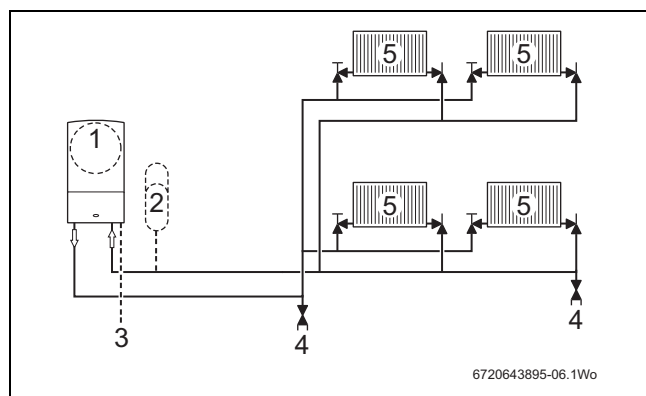

Fig. 6 Sealed system example
Refer to figures 6 and 7 on page 16.
- Where the system volume is more than 100 litres or exceeds 2.65 bar at maximum heating temperature, an extra expansion vessel [2] (figures 6 & 7) must be fitted as close as possible to the appliance in the central heating return.
- Pressurise the extra expansion vessel [2] (figures 6 & 7) to the same figure as the expansion vessel built into the appliance.
Table 8 Key to fig. 6 & 7